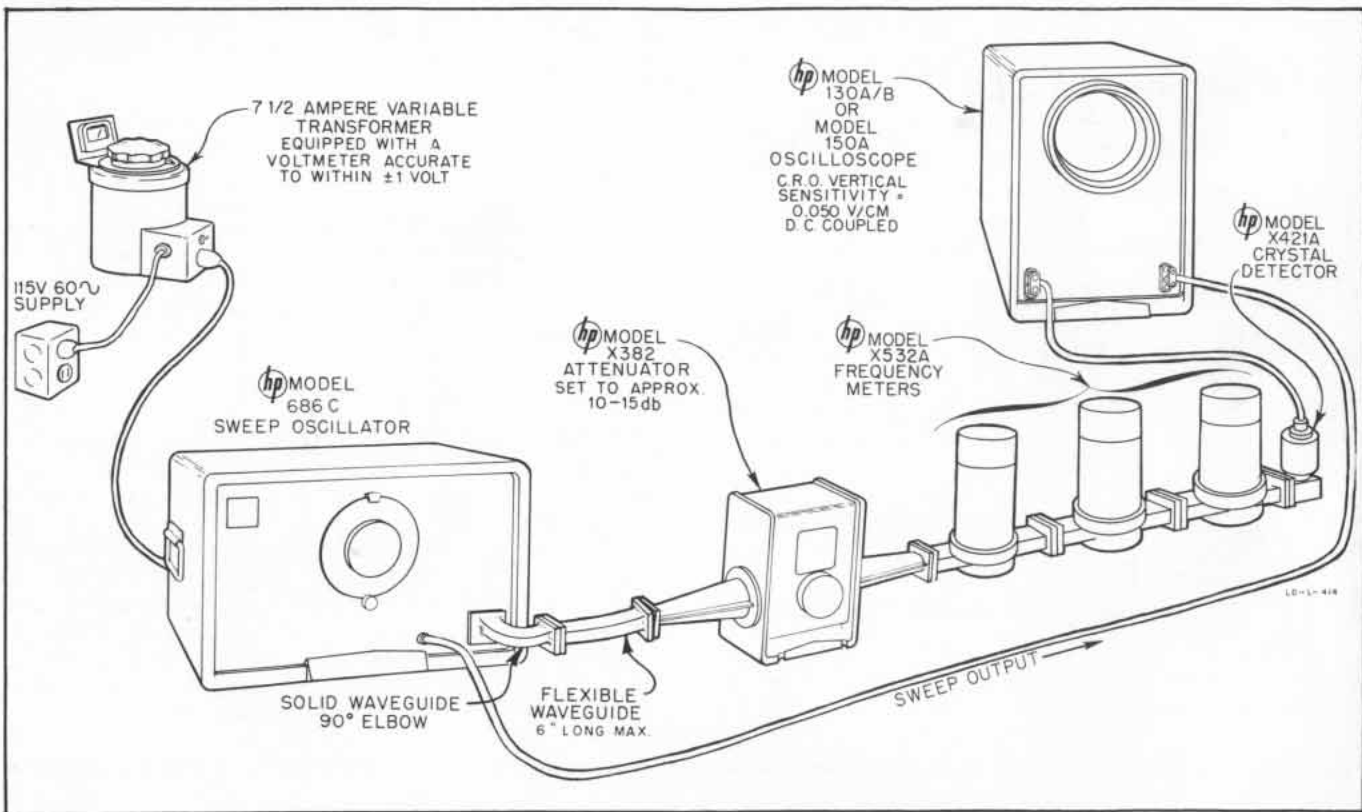

Figure 4-2. Checking Frequency Calibration and General Performance
- 1) Connect a wavemeter and detector system to the sweep oscillator as shown in figure 4-2. The use of three wavemeters is a convenience, not a necessity. When one wavemeter is used, change its setting for each frequency check.
1) Set up the equipment as shown in figure 4-2. This procedure can be done with only one wavemeter. However, considerable time is saved if three wavemeters are used.
- 1) Set up equipment as shown in figure 4-2.
- 1) Set up equipment as shown in figure 4-2, with one wavemeter in the system.
- 1) Set up equipment as shown in figure 4-2 without wavemeters in the system.
- 1) Set up equipment as shown in figure 4-2 with one wavemeter in the system.